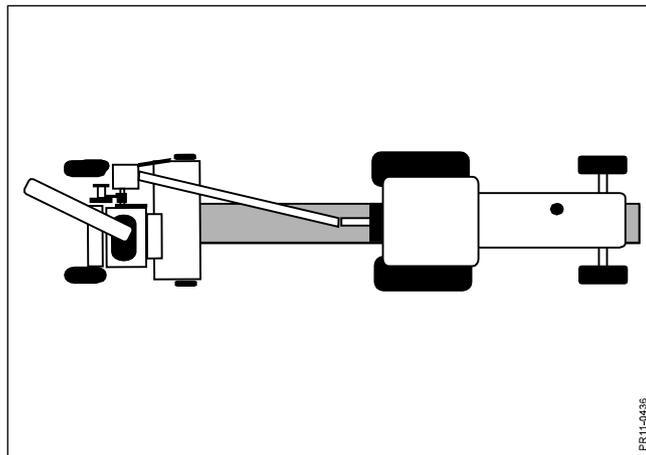

Fig. 5-9
- Fig. 5-9** 3) Here the chopper works in-line as the tractor drives over the swath. This technique is of course very suitable for picking up single swaths as you avoid that the tractor drives on the crop. The technique is still suitable for unloading to both sides and brings the tractors close to each other.
CAUTION: The PTO shaft should work with a deviation of maximum 20°. For sharp turns to the right it is therefore recommended that the drawbar is moved to transport position or a position corresponding to working in-line (see Fig. 5-9.)